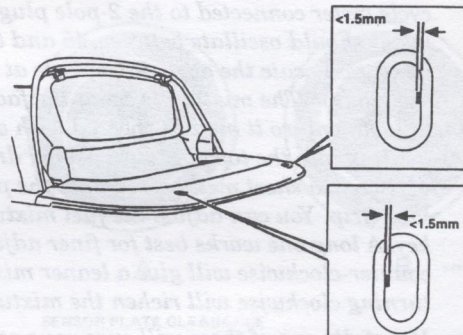

Figure 3: Measuring tip of latch tongue.
7. Check as you stand behind the car, looking straight down through the holes in the Tonneau cover that you see a maximum of 1.5mm on the tip of the latch tongue. See Figure 3.